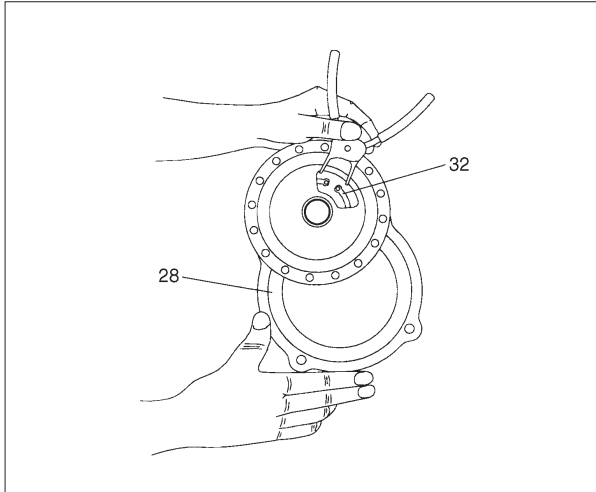

Fig 5.
15) Remove the piston ring (55) from the piston (54).
16) Press the clutch spring cup (50) down and remove the clutch spring cup retainer (49).
17) Remove the clutch spring cup and clutch spring (51).
18) Remove the two clutch jaws (52).
19) Remove the front drive gear bearing (30), drive gear cup (36), drive gear lock washer (35), drive gear screw ring (37) and drive gear screw (34).
20) Remove the large drive shaft bearing retainer (53) using a screwdriver.
21) Press the rear drive shaft bearing and drive shaft (57) out of the piston. If the rear drive shaft bearing needs to be replaced, proceed as follows:
- b. Press the rear drive shaft bearing (58) off the drive shaft.
22) Place the gear case (28) on a workbench.
23) Remove the drive gear bearing retainer (32), using retaining ring pliers and working through the access holes in the gear web, *See fig 5*.
24) Pull the drive gear (29) out of the gear case.